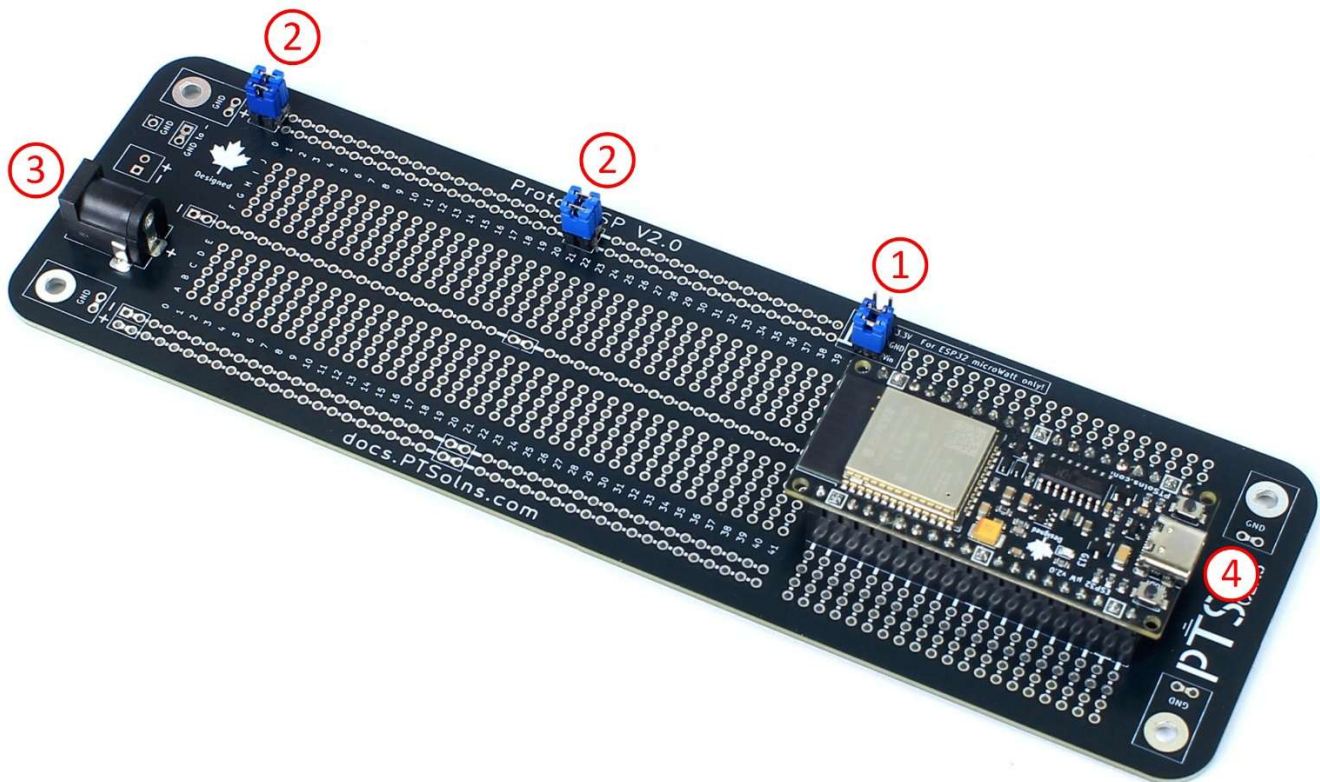

Figure 17: Example setup up of the Proto-ESP and the ESP32 microWatt.
The example setup shown in Figure 17 is one possible configuration that allows for the *ESP32 microWatt* to be interfaced with the *Proto-ESP* easily. For this example, configuration, the following are considered:
- Figure 17, item marked “1” in a circle.
- Figure 17, items marked “2” in a circle.
- Figure 17, item marked “3” in a circle.
- Figure 17, item marked “4” in a circle.